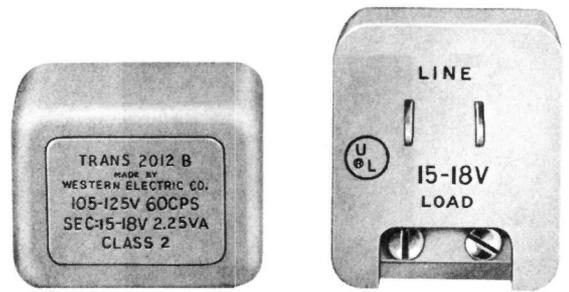

Fig. 4—2012B Transformer
**4.02** The 2012B transformer (Fig. 4) is primarily intended to supply power to the 55A or 55B control unit in 3A speakerphone systems. The length of wire between the transformer and the control unit should not exceed 100 feet of standard inside wire.